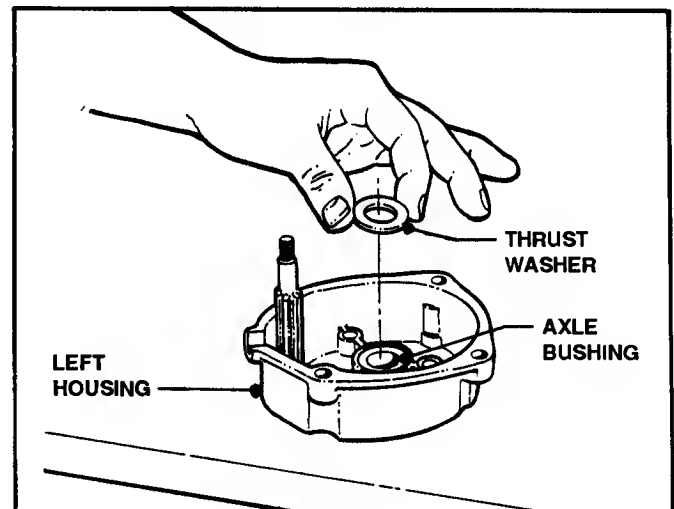

FIGURE 5.17
4. Install one of two Thrust Washers on Bushing. See Figure 5.17.